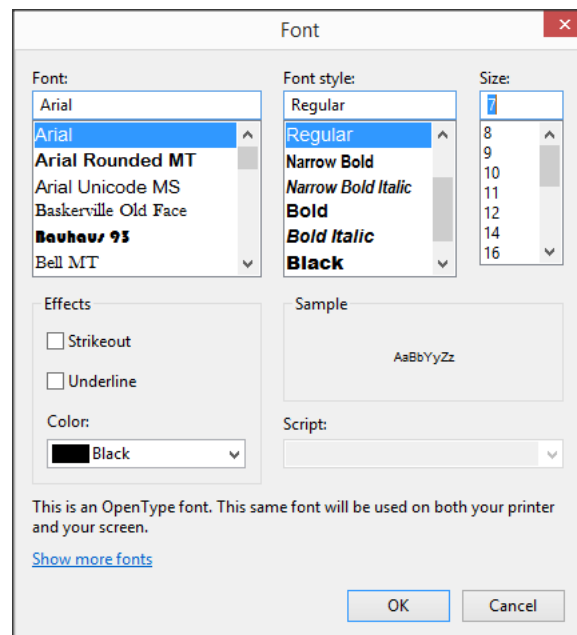

Figure 11.15: The specification of a new font
- ▶ enter '7' as the 'Font Size' (see Figure 11.15),